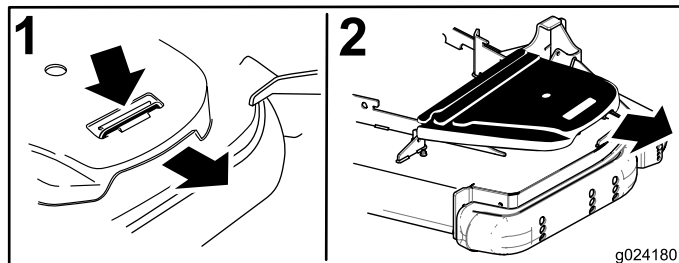

Figure 77
5. Remove the plastic belt cover (Figure 77).
4. Remove the belt covers (Figure 77).